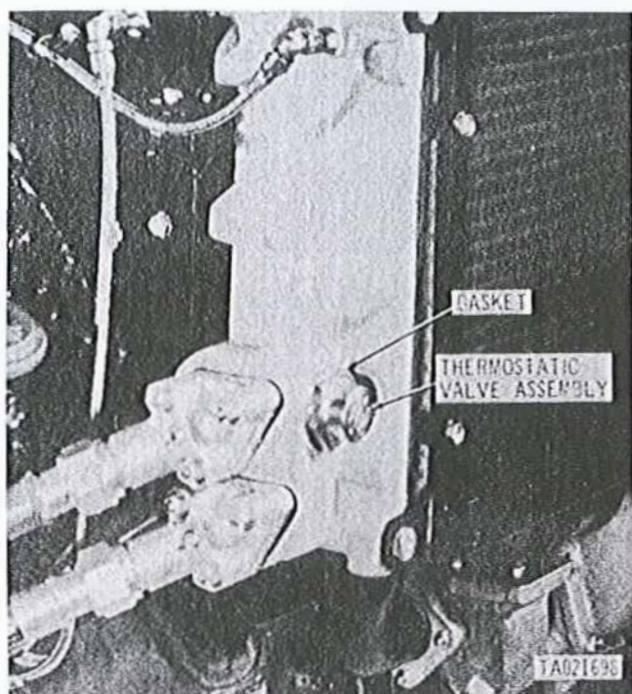

Figure 2-112. Removing or installing engine oil cooler thermostatic valve assembly.
(fig. 2-112).
(1) Position new gasket on thermostatic valve assembly (fig. 2-112).
(2) Install valve. Install left bank engine oil cooler (para 2-27b).